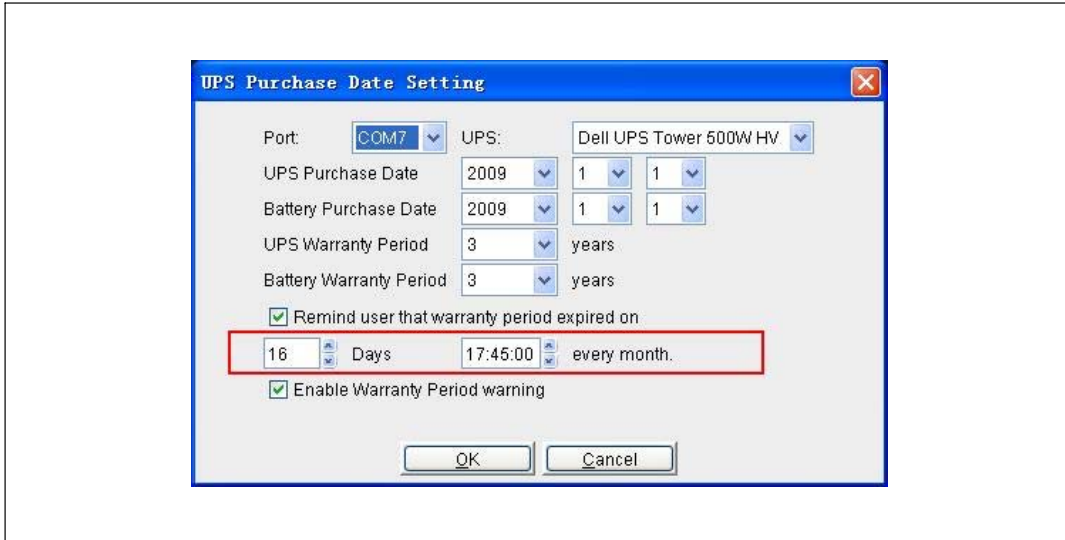

Figure 70. Monthly Warranty Expiration Warning Settings Example
- 1 Select the **Remind user that warranty period expired on** check box (see Figure 70).